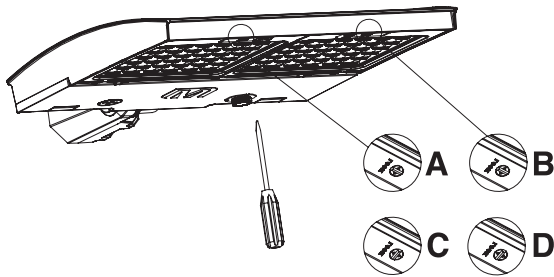

FIG. 1
4. Use a flat-head screwdriver to adjust the self-locking knob of the button to the position shown in Figure C/D of FIG1 (rotate counterclockwise for C and clockwise for C as shown in the figure below), at which point the button will be in a locked state.